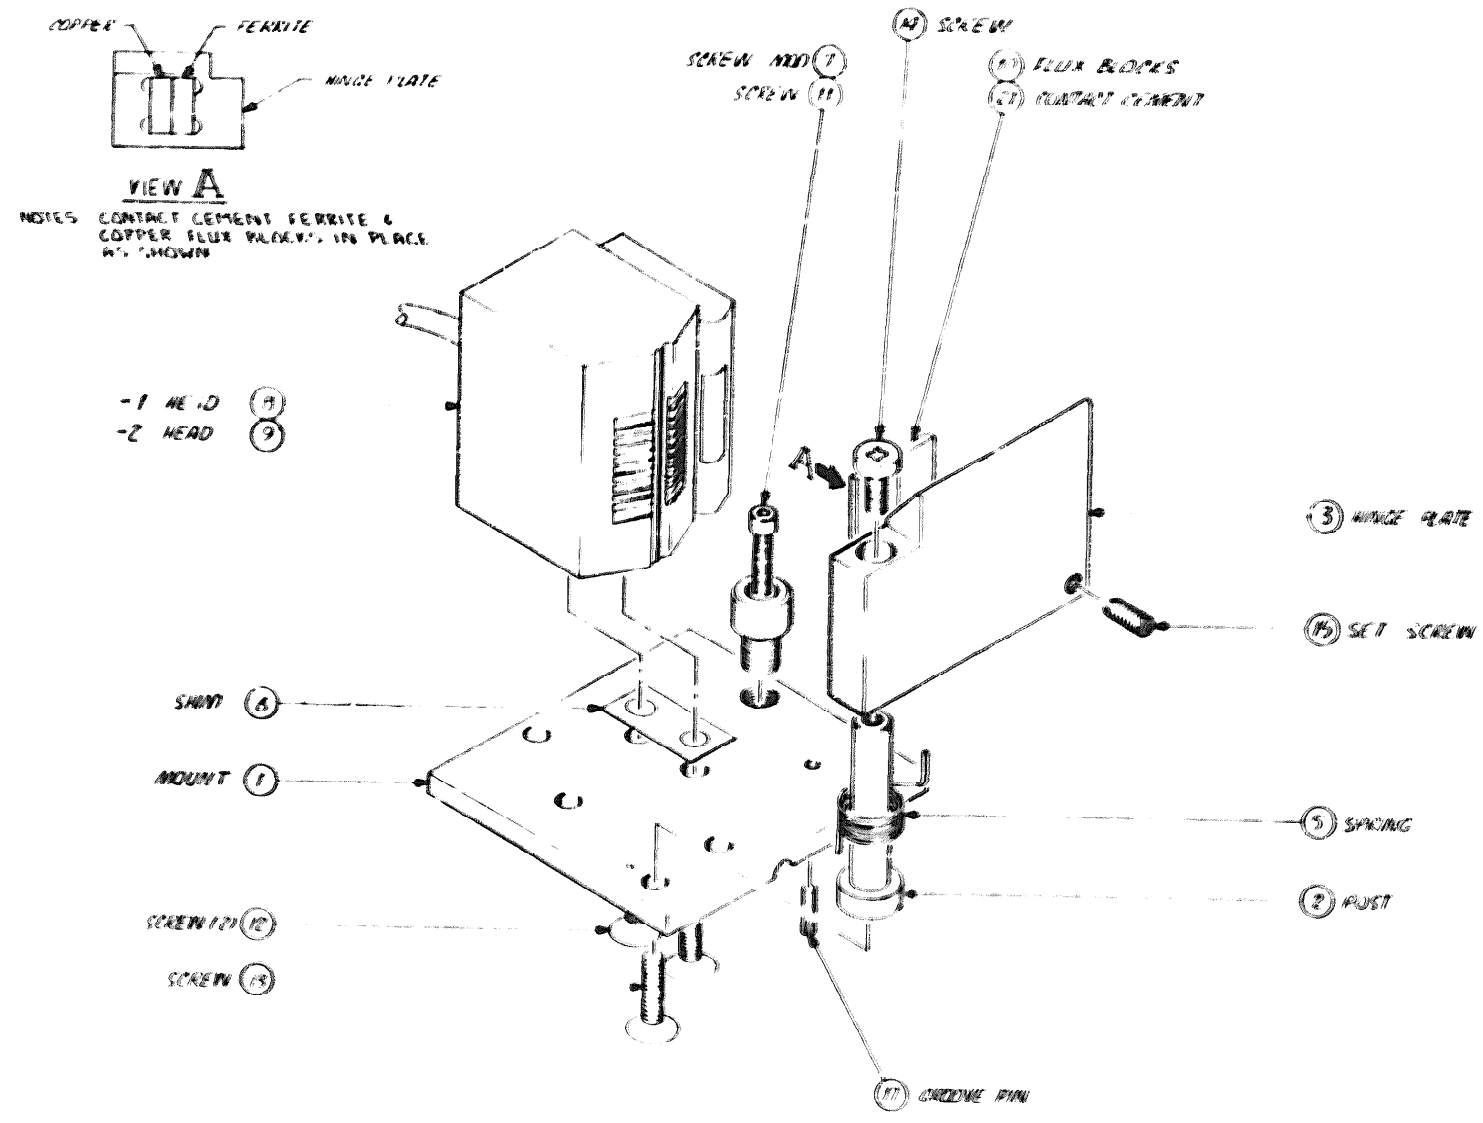

Figure 5-1. Head Assembly
- d. Adjust the azimuth screws (Figure 5-1) on the head mounting plate such that the output of all tracks, as monitored at TP7, fall within 10° or less of the byte-to-byte period listed in Table 5-3. (See Figure 5-2.) The outer azimuth screw bears against the recorder mounting plate and pivots the head assembly outward. The inner azimuth screw threads into the recorder mounting plate and pulls the head assembly inward. The inner screw also serves to lock the adjustment.